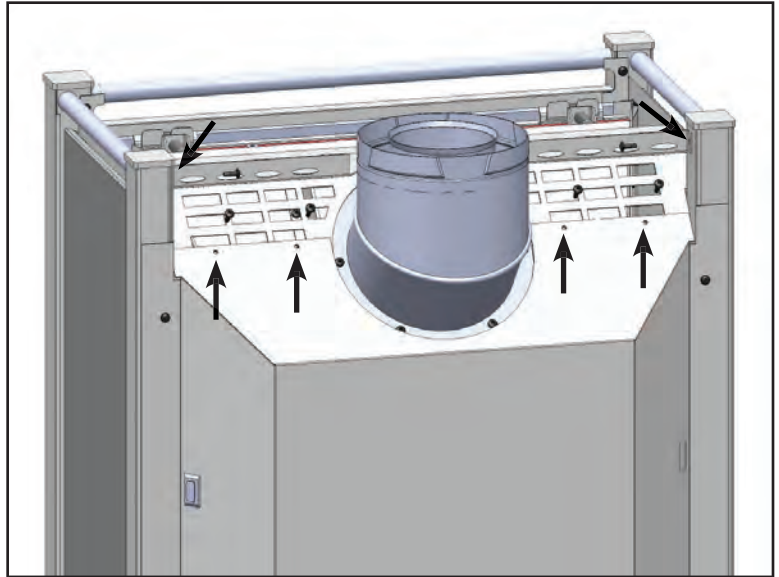

Fig.14
2. Remove screws from top rear grill assembly (1 screw each side of leg, two screws each side of flue collar). **(Fig.14)**